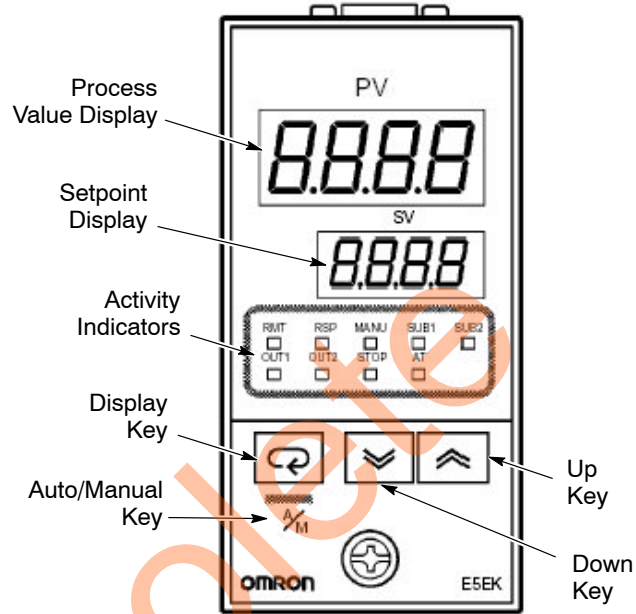

Figure 8 Temperature Controller Displays and Keys
8. See Figure 8. Press the DOWN key to lower the Setpoint Value (green display) to -100. This prevents the heater contactor from energizing while opening the chilled water solenoid valve and allowing chilled water to flow into the process water loop.
Use the process controller to set the material temperature setpoint and monitor the system operation. See Figure 8 and the following table for a description of the controller displays and keys.